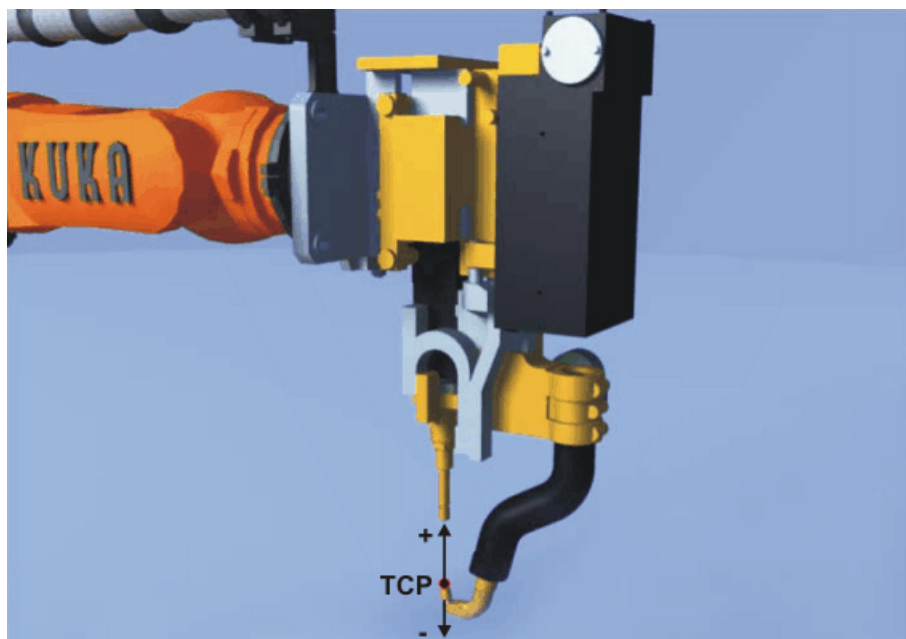

Fig. 6-1: TCP and tool direction
- The tool direction must be defined as shown in the illustration (plus and minus directions). (>>> Fig. 6-1)